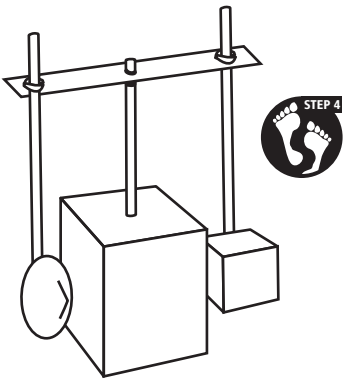

Figure 8
3. Place the drag arm onto the drag stand by placing the ruler over the straw on the drag stand (figure 8).